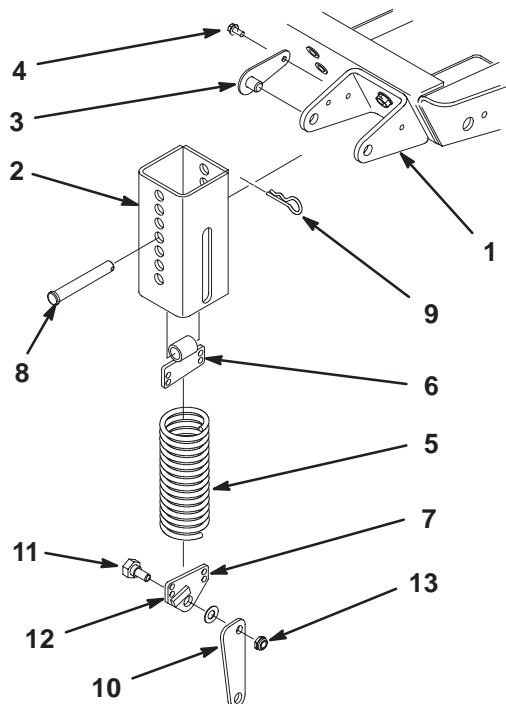
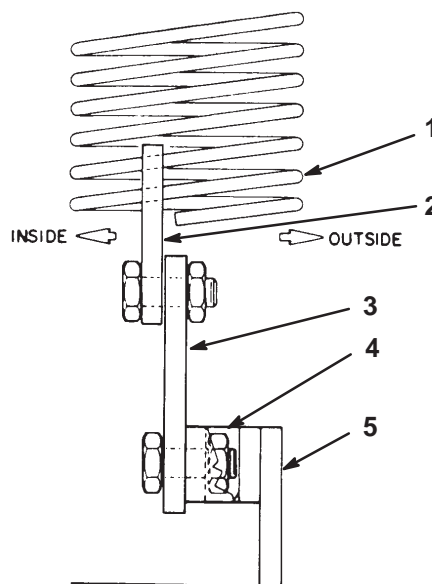

Figure 9
Figure 11
4. Thread the top extension spring coil into the top spring end holes and the bottom extension spring coil into the bottom spring end holes (Fig. 9).
5. Mount the knee link to the lower spring end with the wide part of the knee link pointing forward and the spring end stop pointing forward. Secure the knee link to the outer side of the spring end (Fig. 11) with a shoulder bolt, washer, and locknut (Fig. 9 and 10).
7. Align the slotted holes in the spring cover (slot toward the bottom) with the mounting bracket holes. Insert the lock pin assemblies into the bracket holes and secure each to the bracket with the self-tapping screws (Fig. 9). Torque the screws to 20 ft.-lb. (27 N-m).
8. From the bottom, insert the spring and top spring end into the spring cover. Select a hole that matches the cutter deck height-of-cut setting; i.e., the top cover hole matches the highest height setting, the bottom cover hole the lowest, etc. Align the top spring end hole with the selected spring cover holes and insert the clevis pin to secure the spring inside the cover (Fig. 9). Secure the clevis pin with a hairpin cotter.